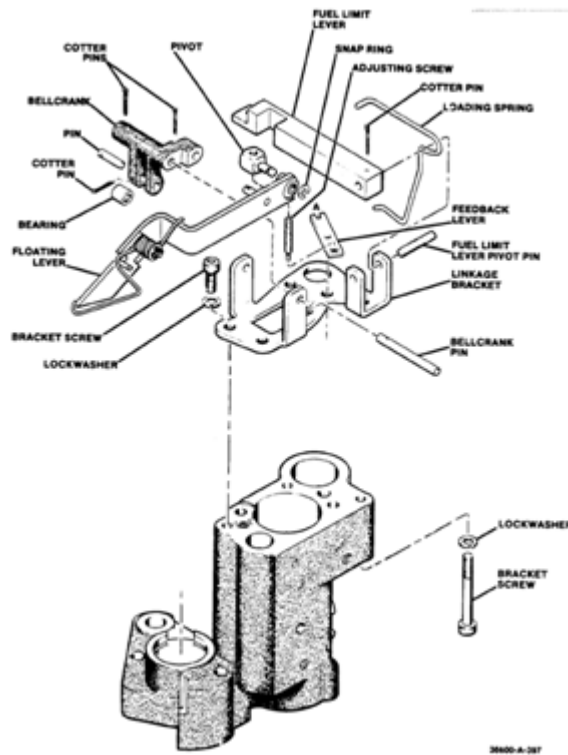

Figure 5-26. Fuel-Limit Bracket and Linkage
- a. Remove snap ring and lift out pivot and adjusting screw (Figure 5-26).